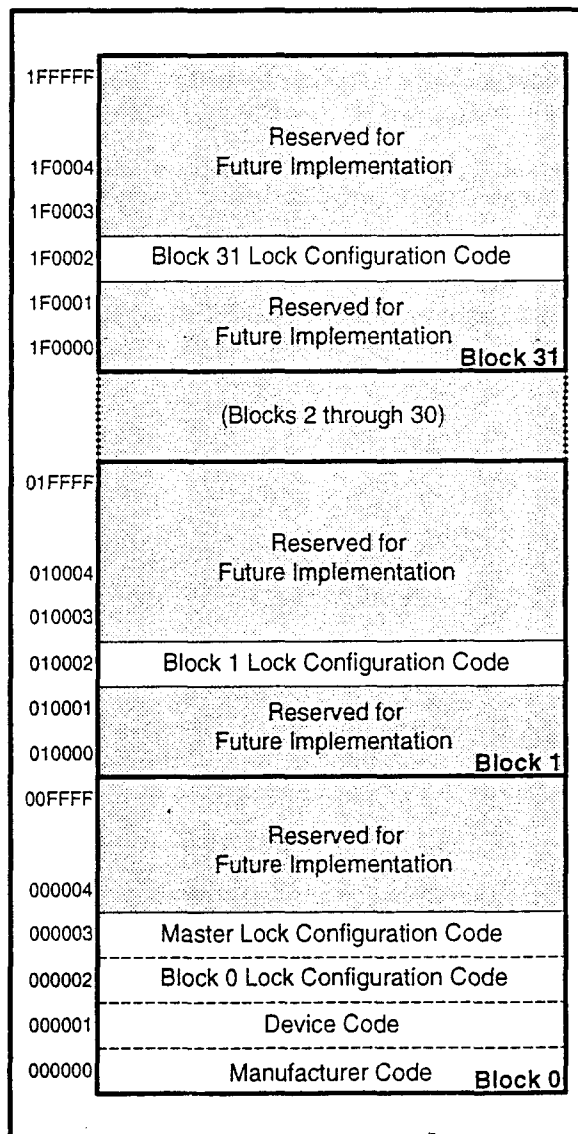

Figure 7. Device Identifier Code Memory Map
The read identifier codes operation outputs the manufacturer code, device code, block lock configuration codes for each block, and the master lock configuration code (see Figure 7). Using the manufacturer and device codes, the system CPU can automatically match the device with its proper algorithms. The block lock and master lock configuration codes identify locked and unlocked blocks and master lock-bit setting.
IA=Identifier Code Address: see Figure 7.
The identifier code operation is initiated by writing the Read Identifier Codes command. Following the command write, read cycles from addresses shown in Figure 7 retrieve the manufacturer, device, block lock configuration and master lock configuration codes (see Table 5 for identifier code values). To terminate the operation, write another valid command. Like the Read Array command, the Read Identifier Codes command functions independently of the  $V_{PP}$  voltage and RP# can be  $V_{IH}$  or  $V_{HH}$ . Following the Read Identifier Codes command, the following information can be read:
1. X selects the specific block lock configuration code to be read. See Figure 7 for the device identifier code memory map.